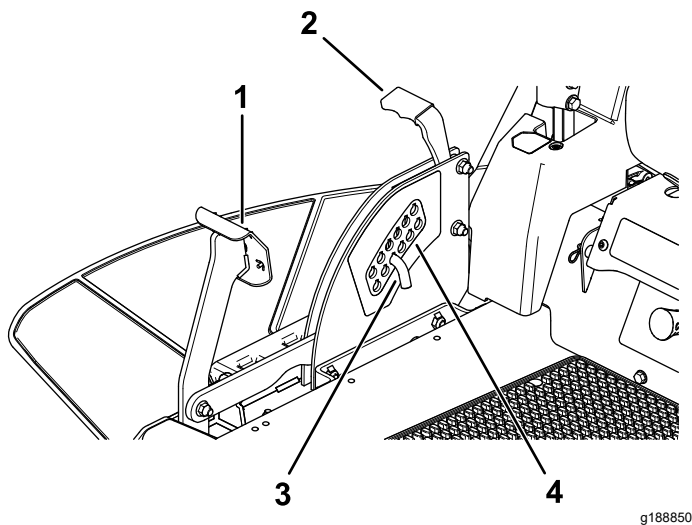

Figure 38
1. Push on the deck-lift pedal with your foot and raise the mower deck to the transport-lock position (also the 114 mm (4-1/2 inch) cutting height position) as shown in Figure 38.
2. To adjust, remove the pin from the height-of-cut bracket (Figure 38).
3. Select a hole in the height-of-cut system corresponding to the desired height of cut and insert the pin (Figure 38).